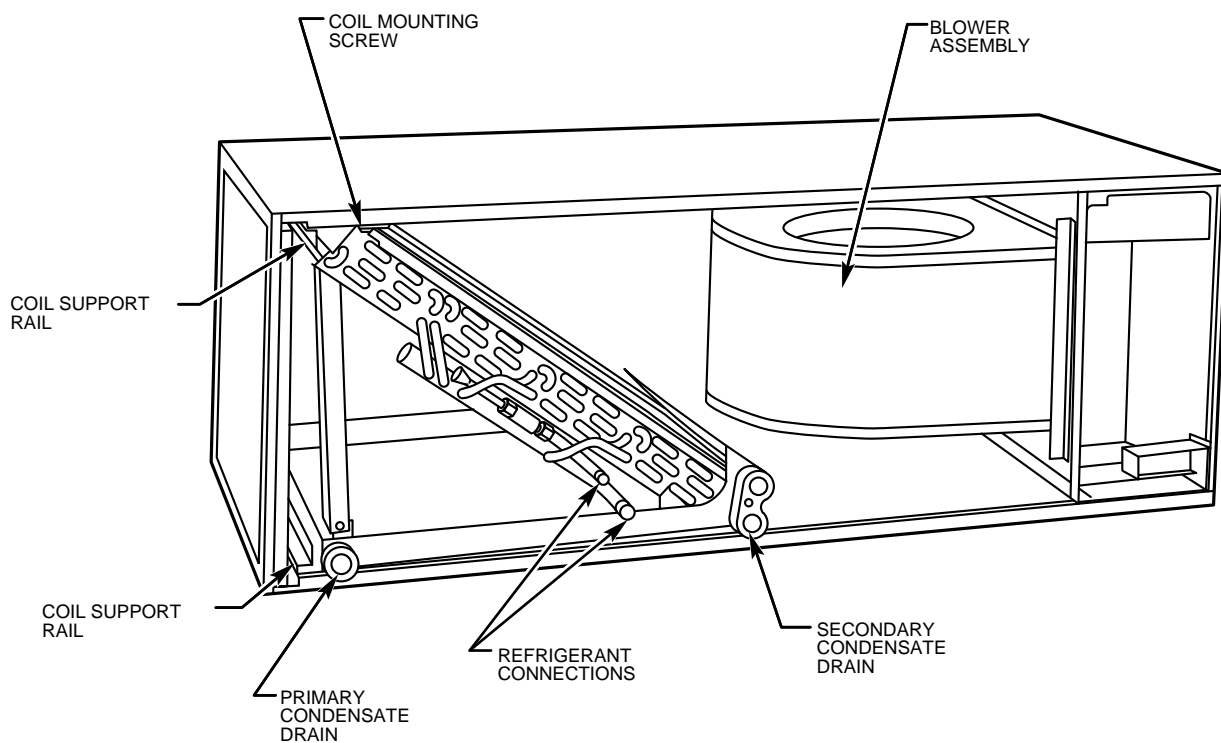

Fig. 7—Slope Coil in Horizontal-Right Application
1. Remove blower and coil access panels and fitting panel. (See Fig. 7.)
4. Lay fan coil on its right side and reinstall coil assembly with condensate pan down. (See Fig. 7.)